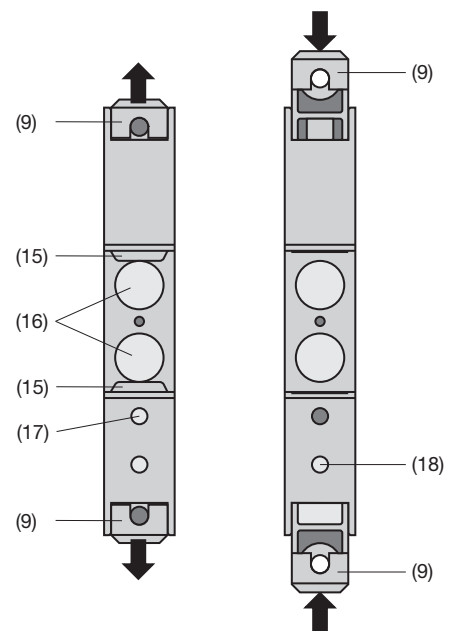

Fig. 8. Rear of device.
The while pressing the latch (17) in the base of the device (Fig. 8, left), pull out the amplifier securing brackets.
To return the brackets to their original positions, the latch (18) in the base of the devices has to be depressed before applying pressure to the securing brackets (9) (see Fig. 8, right).